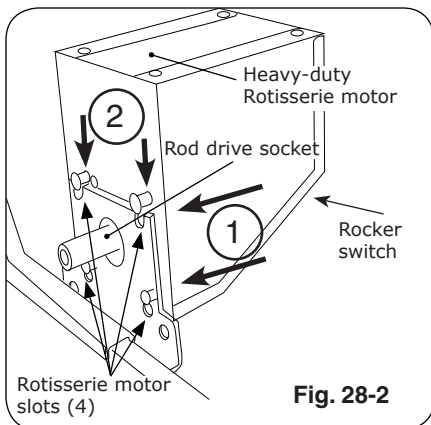

Fig. 28-2
10. Plug-in the rotisserie motor and press the rocker switch to start (Fig. 28-2).